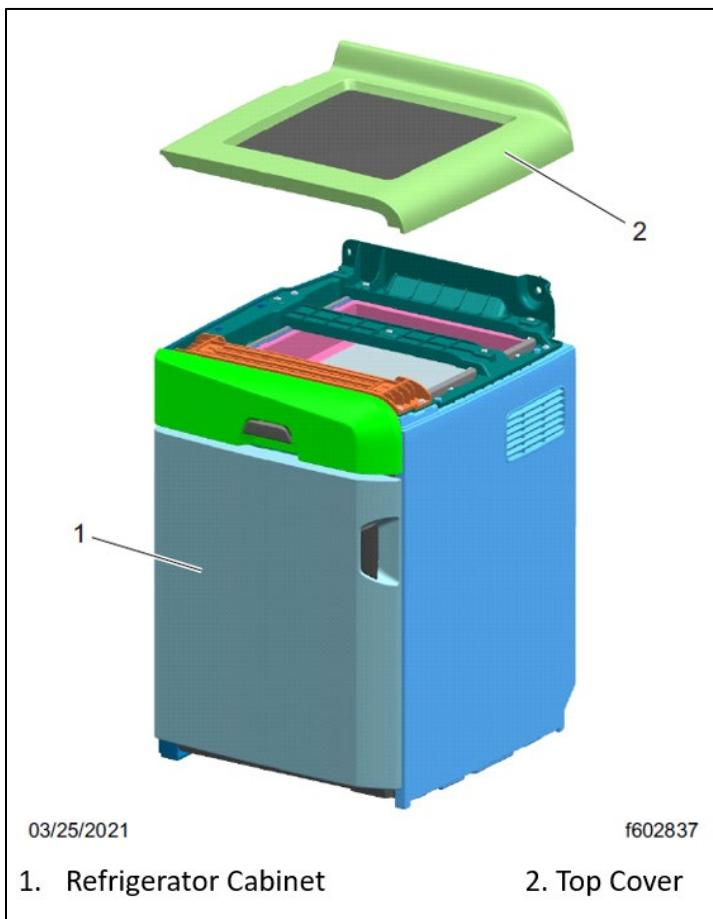

Fig. 35, Refrigerator Cabinet Top Cover
2.2. Remove the refrigerator cabinet top cover. See **Fig. 35**.